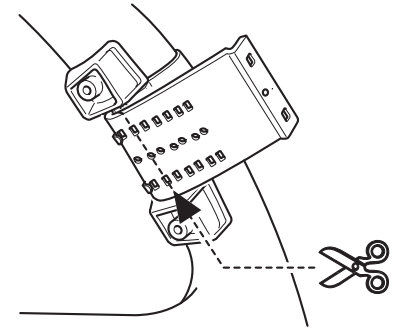

Fig. 17
2. Cut the extra portion of the belt at the center of the inner holder. (Fig. 17)